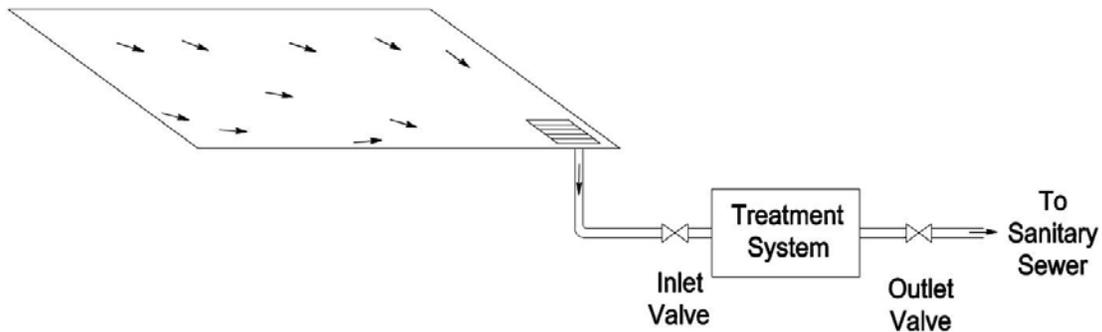

Figure 1. Requirements for an Uncovered Wash Area
- The positive control outlet valve is located prior to the connection to the sanitary sewer. (not shown in Figure 1)
- Clean the concrete pad thoroughly until there is no foam or visible sheen in the washwater prior to closing the inlet valve and allowing uncontaminated stormwater to overflow and drain off the pad. (See Figure 1)
- The wash area should be well marked at gas stations, multifamily residences, and any other business where nonemployees may wash vehicles. The posting will include a statement forbidding the changing of oil in the wash area and the location of the nearest oil recycling facility. See Figure 1 for an illustration of these requirements.
- You may manually operate the positive control outlet valve, but a pneumatic or electric valve system is preferable. The valve may be on a timer circuit where it is opened upon completion of a wash cycle. The timer would then close the valve after the sump or separator is drained (Figure 1).